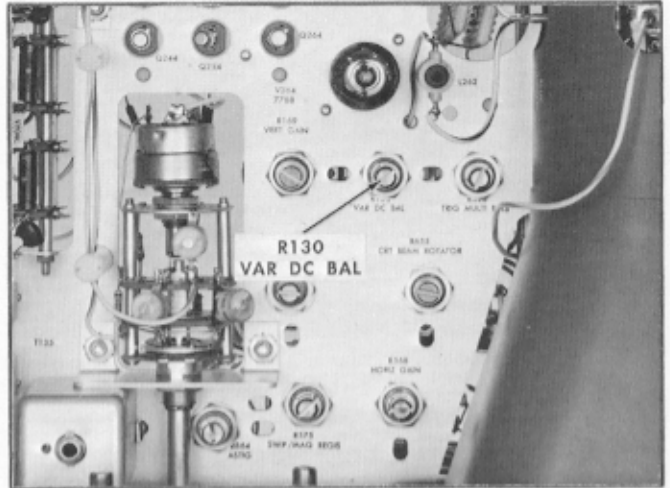

Fig. 6-9. Location of VAR DC BAL adjustment.
- c. Adjust the VAR DC BAL control (R130; see Fig. 6-9) for no vertical movement of the trace as the (VERTICAL) VARIABLE (VOLTS FULL SCALE) control is rotated from extreme to extreme.